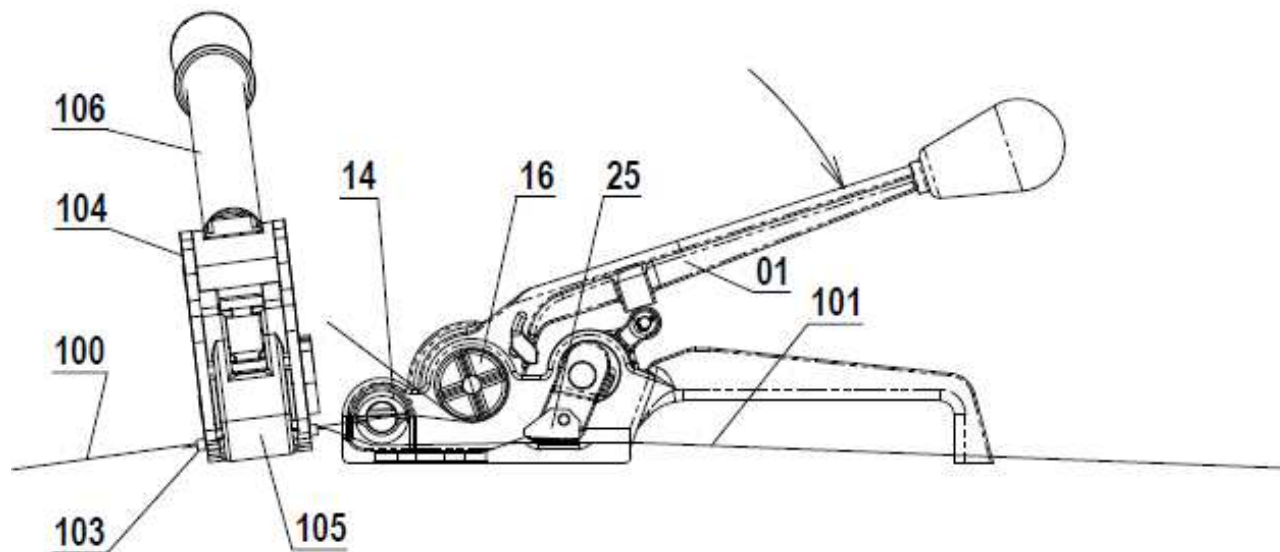

Fig. 5
4. Once satisfactory tension is achieved the strap is ready to be sealed. With the **Seal 103** securely in place use the appropriate **Sealer 104** to snap the **Seal 103**. Place the **Jaws 105** of the sealer on the middle of the **Seal 103** and press the **Handles 106** until they cannot be squeezed any further. Then unclenched the **Handles 106** and remove the **Sealer 104** as shown on Fig. 5